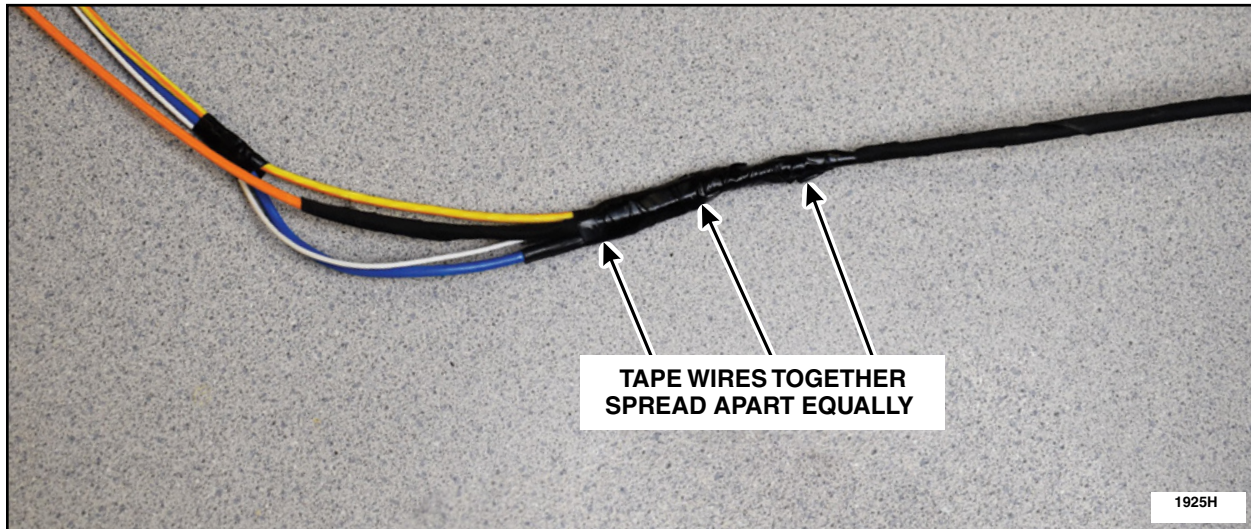

FIGURE 8
10. Tape the wires together to route in the vehicle, spread the wires apart equally. See Figure 8.